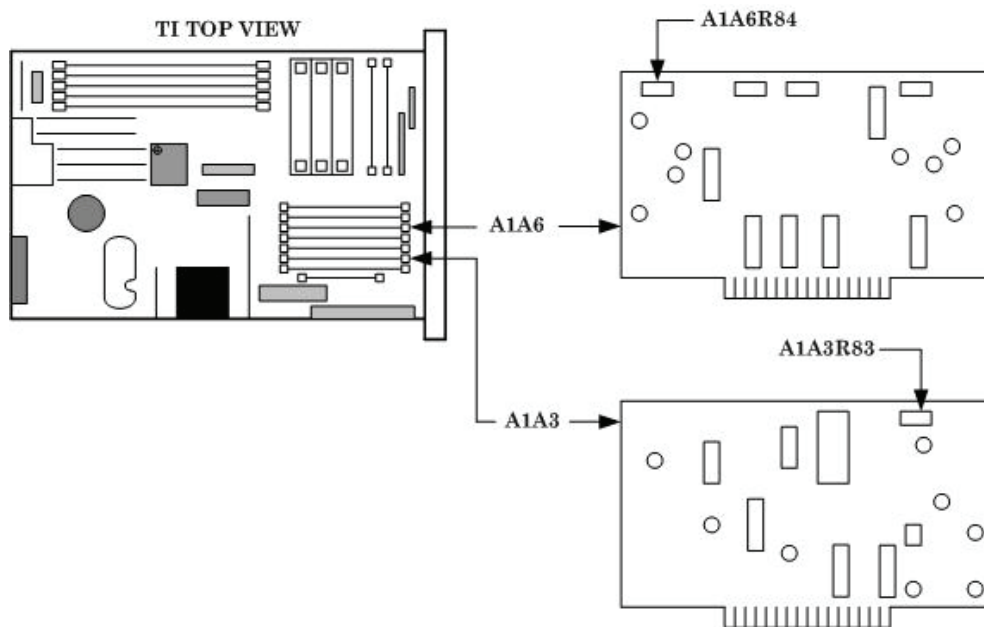

Figure 10. AM adjustment locations.
- (2) Press TI keys as listed in (a) through (g) below:
- (3) Set the audio analyzer to produce a 1 kHz, 1.06 V output with 600 Ω output impedance, then select special function 17.
- (4) Set measuring receiver for an **AM** measurement and + **PEAK** detector.
- (5) Adjust A1A3R83 (fig. 10) for an indication of 73.0% AM on the measuring receiver (R).
- (6) Adjust A1A6R84 (fig. 10) until TI meter indicates 75% on middle scale of output meter (R).